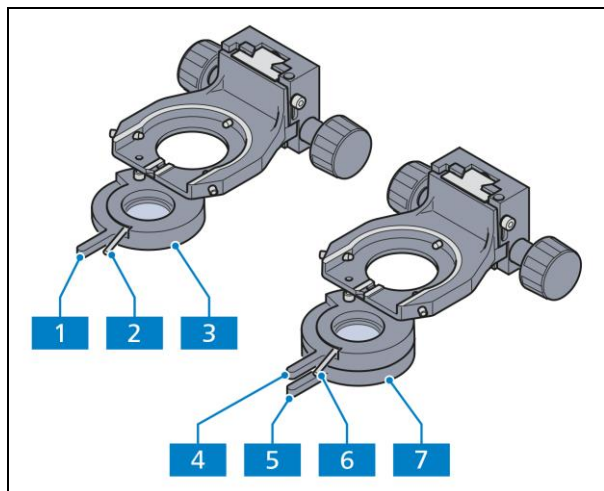

Fig. 2-21 Polarizers
Polarizer D, 90° rotatable, switchable (Fig. 2-21/3)
- Polarizer can be swiveled in/out using handle (Fig. 2-21/1)
- Polarizer with lever (Fig. 2-21/2), 90° rotatable
Polarizer, fixed with lambda plate, rotatable, (Fig. 2-21/7)
- Polarizer can be swiveled in/out using handle (Fig. 2-21/5)
- Lambda plate can be swiveled in/out using handle (Fig. 2-21/4)
- Lambda plate with lever (Fig. 2-21/6), rotatable